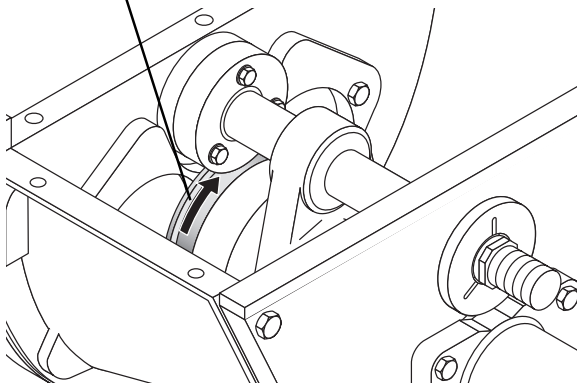

Figure 13
7. From inside the hopper, tap the cutting ring forward, towards the spectacle plate. The ring should come loose. (If it does not, loosen the cover bolts a little more, then gently pry the rock valve rearwards a little more). Rotate the ring 90 degrees clockwise (Figure 13). It does not matter which way the ring is rotated, but SCHWING recommends going clockwise each time to prevent confusion on which way the ring was previously rotated.